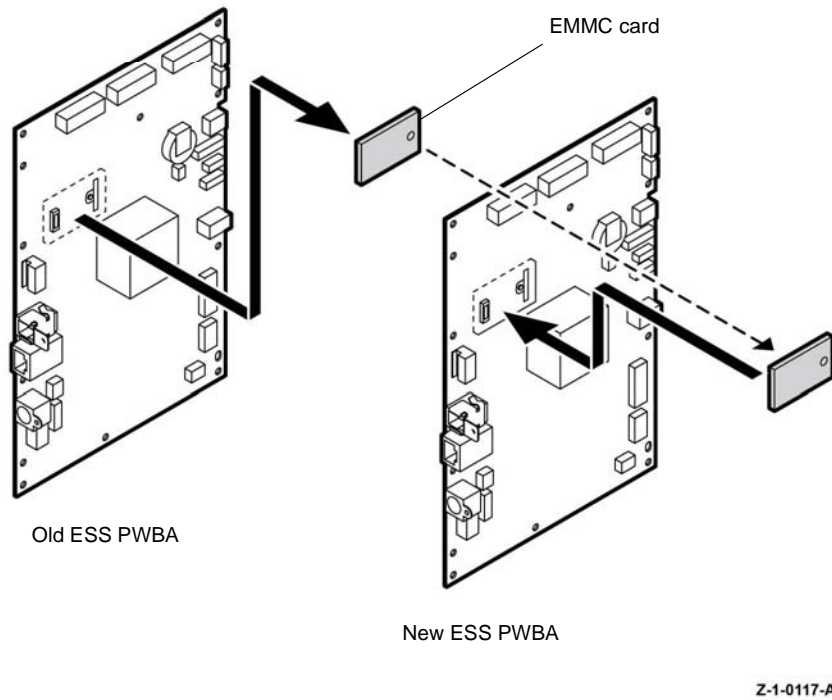

Figure 4 Transfer the EMMC card
1. If installing a new ESS PWBA, remove the EMMC card from the old ESS PWBA, then install the EMMC card onto the new ESS PWBA, before the new ESS PWBA is installed, Figure 4.